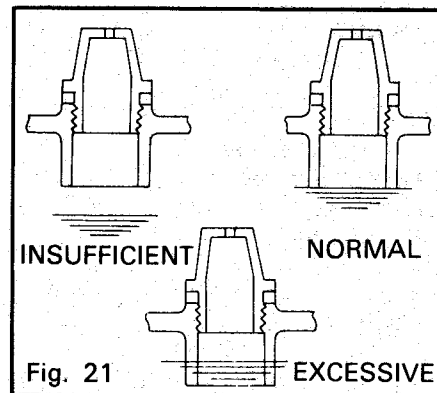

Fig. 21
**BATTERY ELECTROLYTE WILL EVAPORATE NATURALLY OR DURING RECHARGING. IF THE BATTERY ELECTROLYTE IS INSUFFICIENT, THE BATTERY MAY BE DAMAGED. IF THE ELECTROLYTE LEVEL IS TOO HIGH, IT WILL SPILL OUT FROM THE BATTERY RESULTING IN CORROSION OF THE MACHINE BODY. IT IS VERY IMPORTANT TO MAINTAIN THE SPECIFIED ELECTROLYTE LEVEL. SEE FIG. 21.**